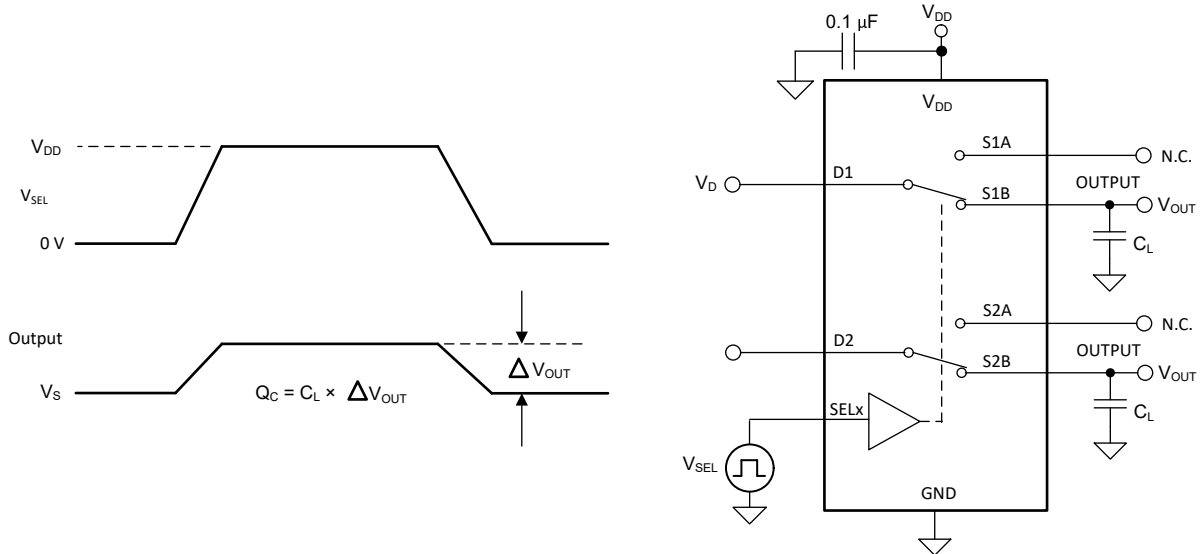

Figure 7-11. Charge Injection Measurement Setup
Any mismatch in capacitance results in a charge injected into the drain or source during the falling or rising edge of the gate signal. The amount of charge injected into the source or drain of the device is known as charge injection, and is denoted by the symbol Q_C . Figure 7-11 shows the setup used to measure charge injection from Drain (D) to Source (Sx).